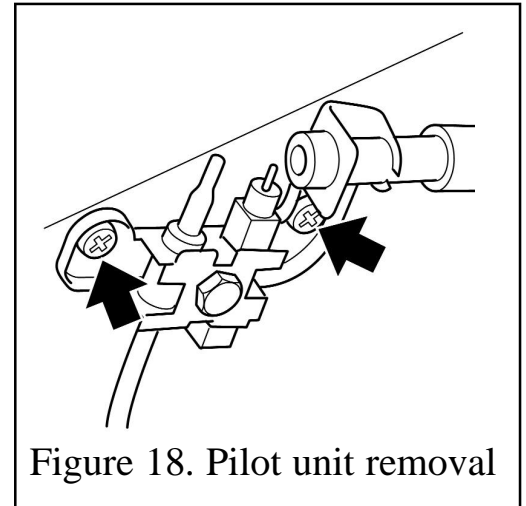

Figure 18. Pilot unit removal
5. Remove the two screws securing the pilot unit (See figure 18).